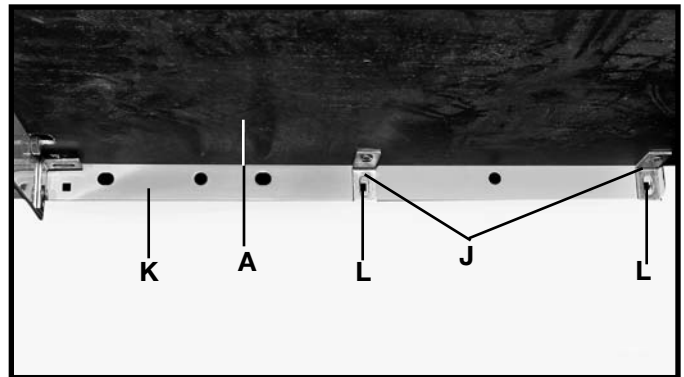

Fig. 55
3. Assemble the two brackets (J) to the rear guide rail (K) using the two 1/4-20 x 3/4" carriage bolts placing bolts through holes, then washers and nuts (L), Fig. 55. **NOTE:** The long leg of the brackets (J) should be against the bottom of the table (A).